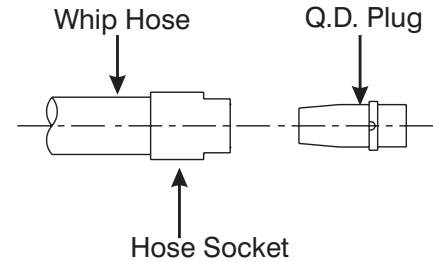
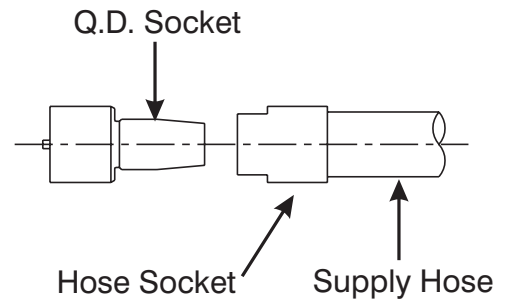

Figure 11-8. Remove Q.D. Plug.
Figure 11-9. Q.D. Socket and Hose
Plug (15) out of Hose Socket (14). Refer to Figure 11-8.
- a. Use a 2-inch open-end wrench to hold the Hose Socket (14).
- b. Use a 1-1/2-inch open-end wrench to thread the Q.D. Plug (15) from the Hose Socket (14).
- c. To remove the hose socket from the Whip Hose (13), refer to step 6, below.
4. Separate the Q.D. Socket (17) from its Hose by threading the Q.D. Socket (17) out of the Hose Socket (14). Refer to Figure 11-9.